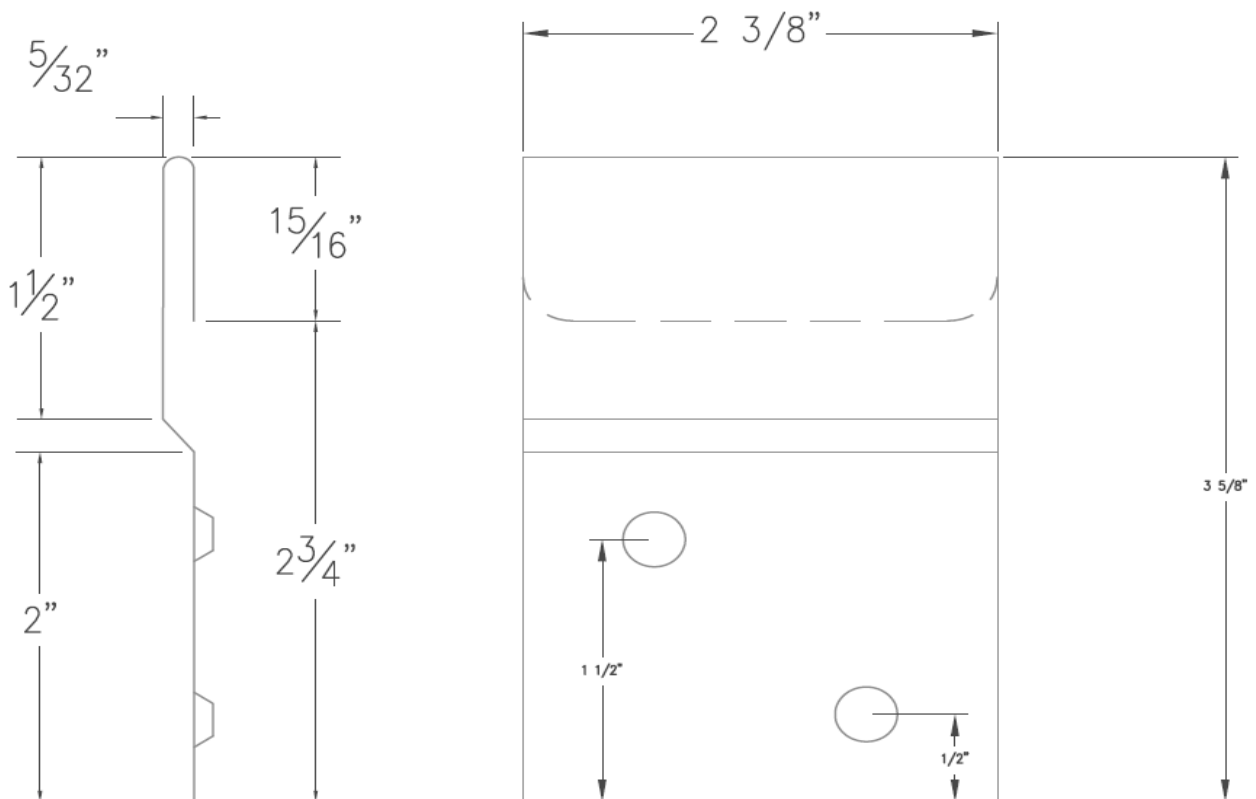

FIGURE 3—FLATLOCK PANEL SIDELAP CLIP
3.5.1.1 Panel Clips – Sidelap: Sidelap panel clips are $2\frac{3}{8}$ -inch (60 mm) long, $3\frac{5}{8}$ -inch (92 mm) wide, 0.02 inch (0.5 mm) thick galvanized steel (EN10142, DX51D + Z275-N-B-C). See Figure 3.